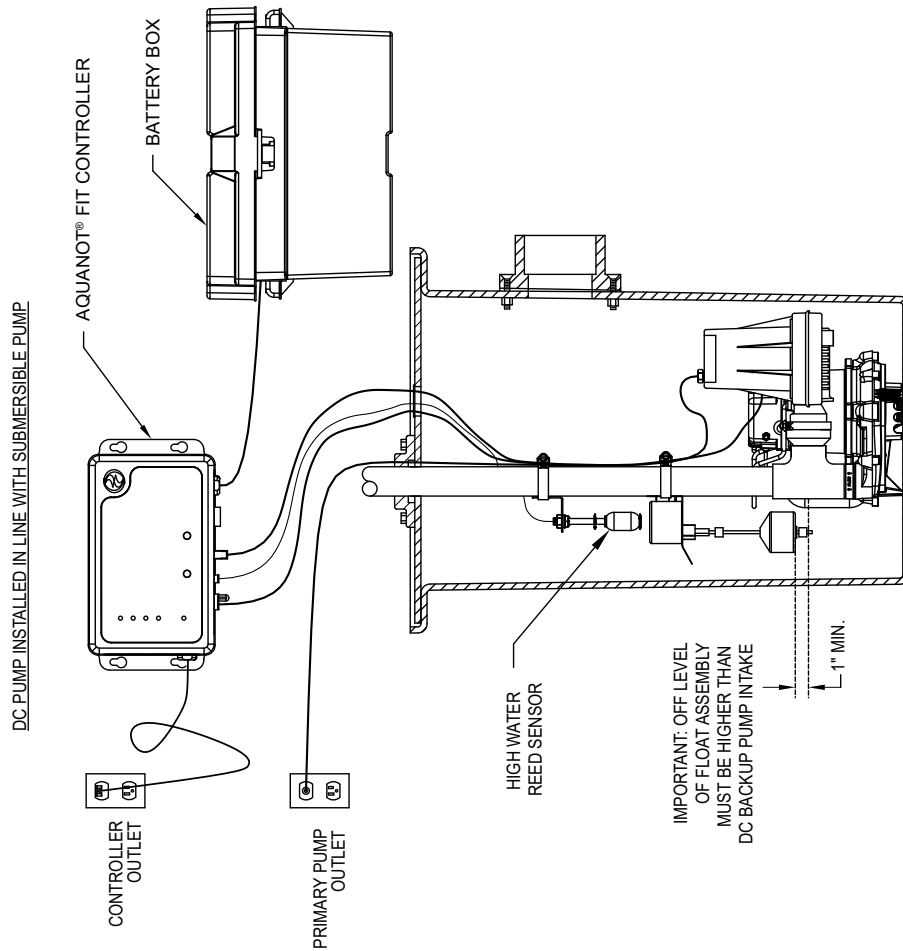

FIGURE 1
2. The preferred method of installation for backup pumps is shown in Figure 1. The installation kit includes one check valve for installing with the backup pump discharging into the primary pump outlet pipe. An additional check valve is incorporated in the discharge of the backup pump.
4. Make certain the float switch clamp is tight on the pipe to avoid slippage. Ensure that the "off" level of the float is 1" (25 mm) min. above the discharge tee of the DC backup pump (see Figure 1). Position pumps in the sump and move float up and down, making sure of free movement without interference from any obstructions inside the sump or lid. Very shallow sumps may require some adjustment to avoid overflowing or backing up of water into the sump inlet. The float switch can be moved on the discharge pipe or the rubber stops can be adjusted as necessary.